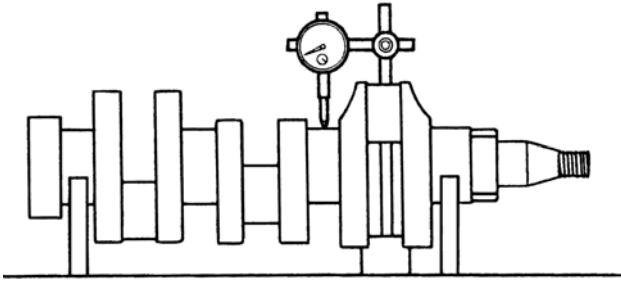

Fig. 3-28
1. To measure run-out of the crankshaft, support the crankshaft using a V block as shown in Fig. 3-28. Using a dial indicator as shown, measure the run-out of the center to the crankshaft center journal, by slowly rotating the shaft through one revolution. If the service limit is exceeded, correct or replace.